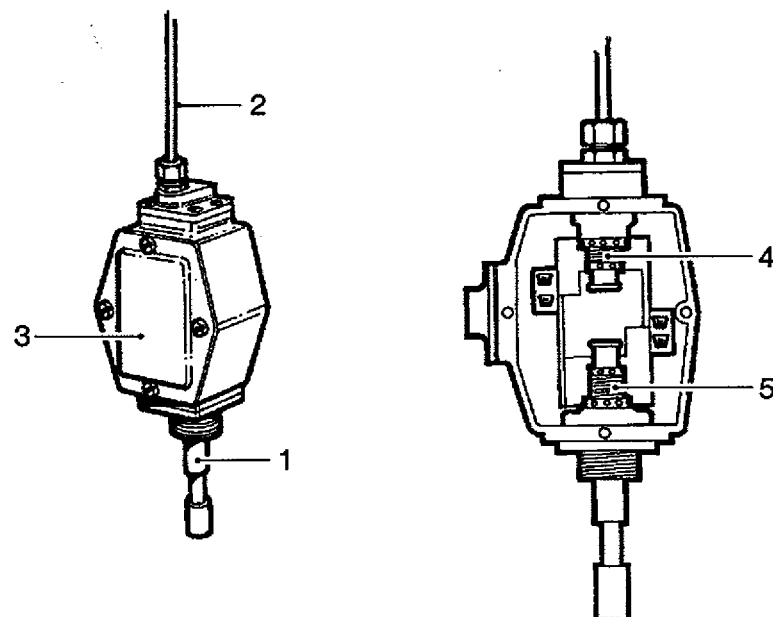

Fig. 1FF
The low lubricating oil pressure switch, operated by a diaphragm piped (2) into the engine lubricating oil circuit (see **Fig. 1FF**) at pre-set temperatures and pressures.